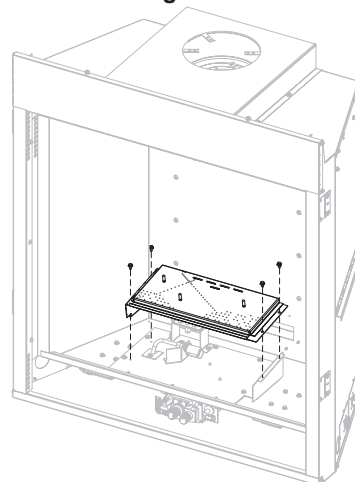

Figure 12
9. Remove the four screws securing burner and slide to right then lift burner off. **See Figure 12.**
18. Reinstall the burner and four screws removed in step 9. **See Figure 12.**